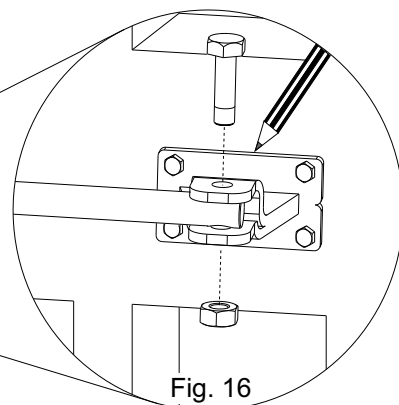

Fig. 16
- 3) Fix the rod on the front fixation (Fig. 16).